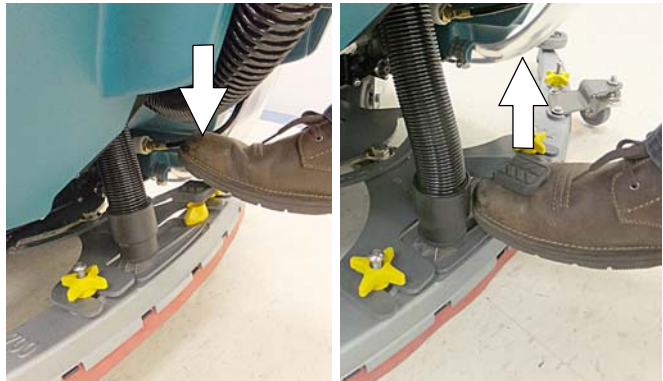

FIG. 36
4. Lower the squeegee assembly to floor by stepping on foot pedal (Figure 36). To raise squeegee assembly, place foot under foot pedal and lift. The vacuum motor will automatically start when squeegee is lowered to floor.